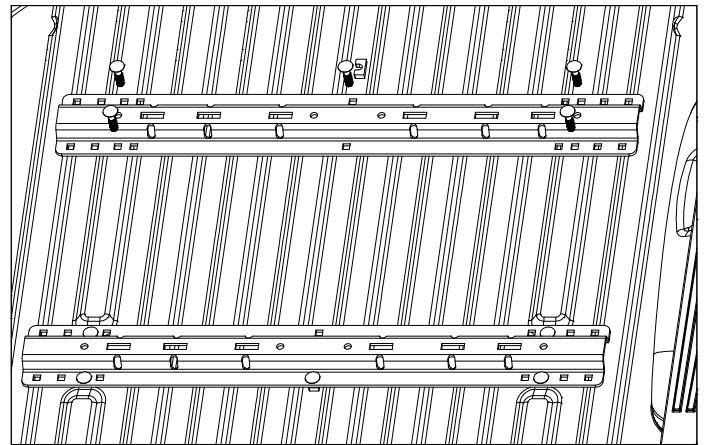

Figure F3: View of truck bed from the tailgate.
3. **Install forward mounting rail.** Re-position the forward mounting rail over the drilled 9/16" holes in the bed. Place 3/8" U-shaped spacers where needed between the bed and the mounting rail. Install a 1/2" x 2" carriage bolt through the mounting rail into each of the five drilled holes, as shown in Figure F3. Under the bed place 3/8" U-shaped spacers where needed between the bed and the side plate flanges. Attach each of the carriage bolts with an offset rectangle washer, lock washer, and nut. Hand tighten each nut.